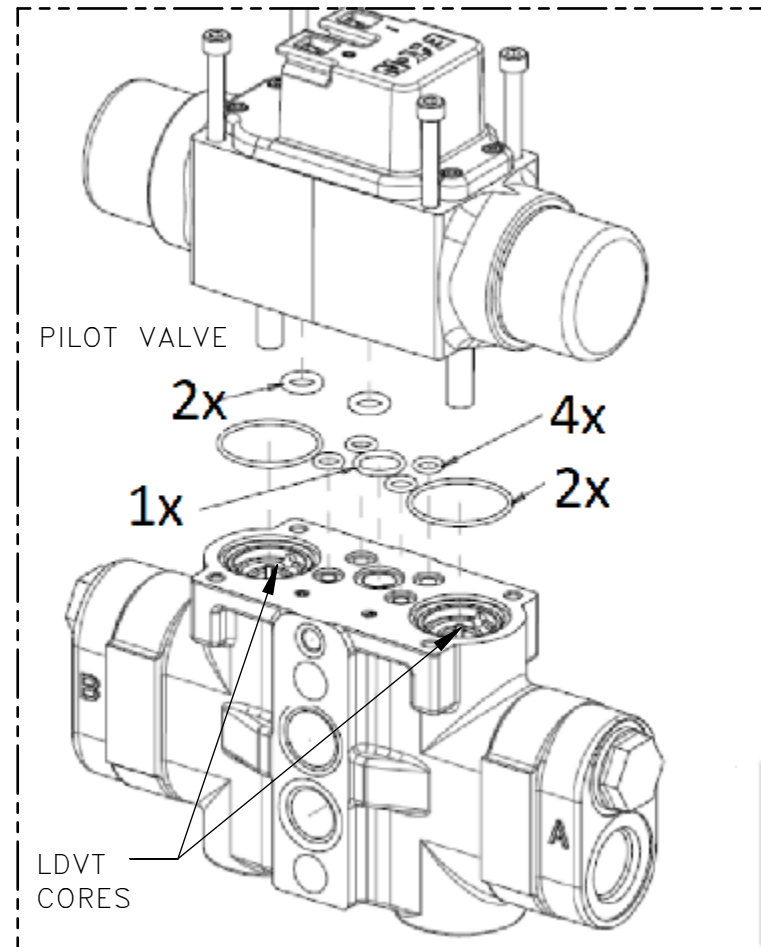

FIG 2.2 CMA90 PV SEALS
13. INSTALL CV AND PV SEALS INTO THE MAIN VALVE FACE ENSURING THAT THEY REMAIN IN POSITION (SEE FIG 2.2).